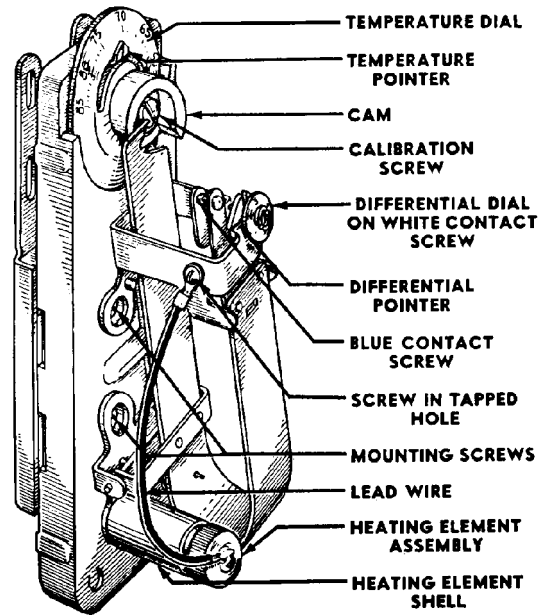

Figure 7-1. Metal element thermostat.
a. A thermostat (figures 7-1 and 7-2) measures the temperature of the air circulating around it. It is also affected by the temperature of the wall on which it is located. Always install a thermostat on an inside wall at eye level and in a place where it will be affected by the average room temperature. Make sure that there is free circulation of air at the point of mounting and that the thermostat is unobstructed by furniture, doors, lockers, and the like. Do not mount a thermostat where the sun's rays will strike it at any time. In barracks, a centrally located supporting post or column affords a satisfactory thermostat location. In officer's quarters or in office buildings, the inside wall of a representative room will provide a satisfactory location. Avoid hallways whenever possible.